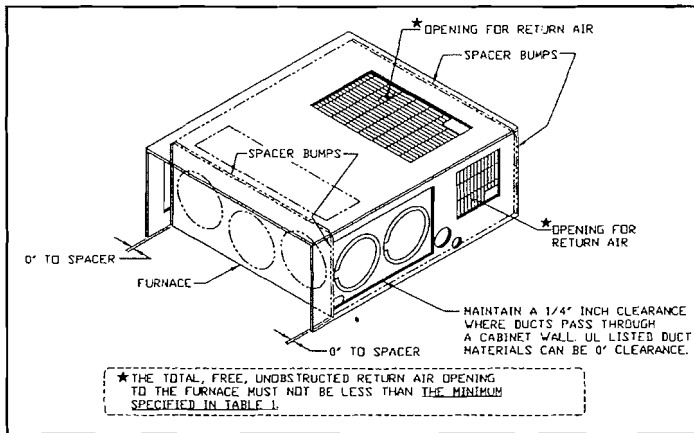

Figure 3
E. Maintain a minimum of 1/4" clearance where ducts pass through any combustible construction, such as coach cabinetry. (See Figure 3.) **NOTE: UL listed duct materials can be 0" clearance.**